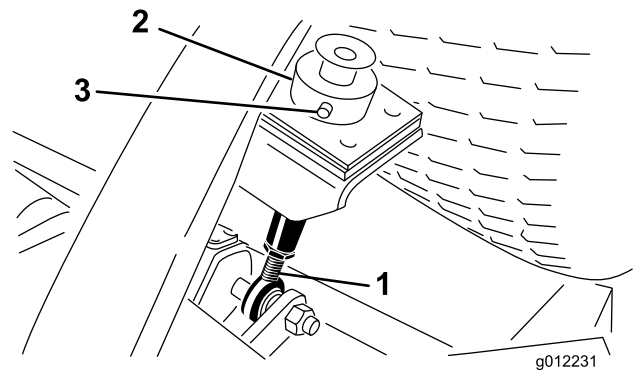

Figure 9
5. Remove the hair pin and clevis pin securing the height of cut collar to the height of cut rod on the rear of the cutting unit (Figure 9).